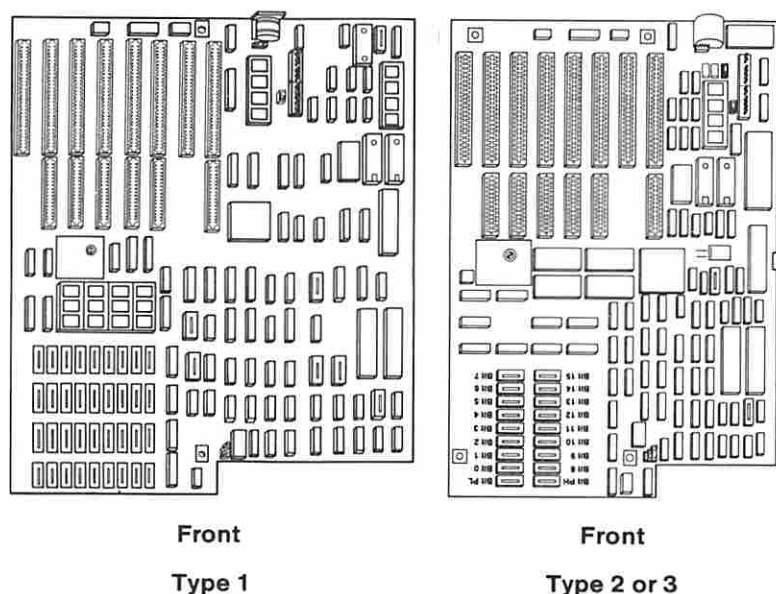

Figure 2. System Board Type
- Refer to Figure 2 and determine the type of system board installed.